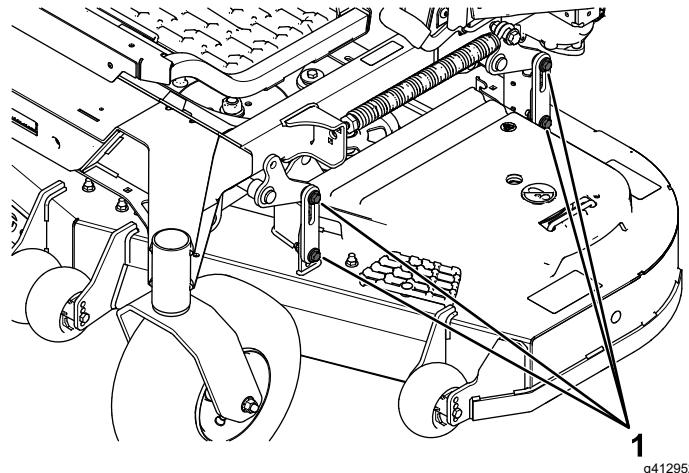

Figure 89
16. Loosen the bolts (Figure 89) on all 4 corners and ensure that the mower deck is sitting securely on all 4 blocks.